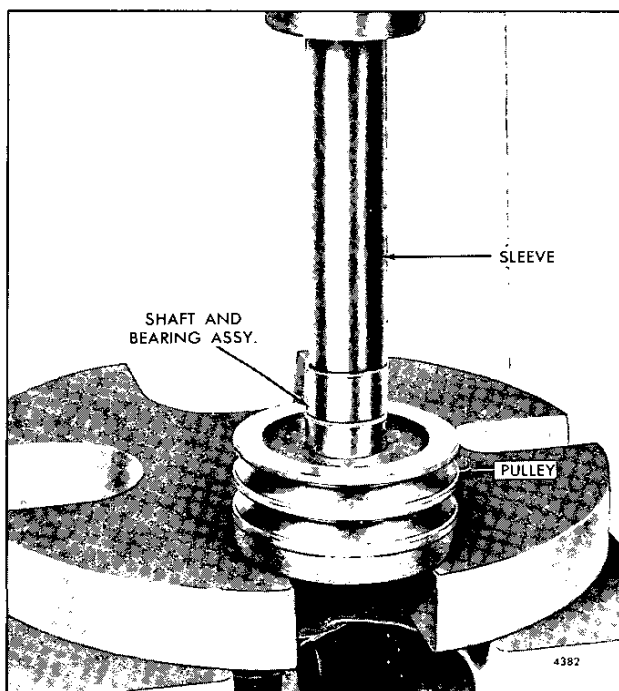

Fig. 3 - Installing Shaft and Bearing Assembly in Idler Pulley
1. Apply a minimum of 1600 lbs pressure only on the outer race of the bearing as shown in Fig. 3 and press the bearing and shaft assembly into the idler pulley until the outer race of the bearing is flush with the inside surface of the pulley.